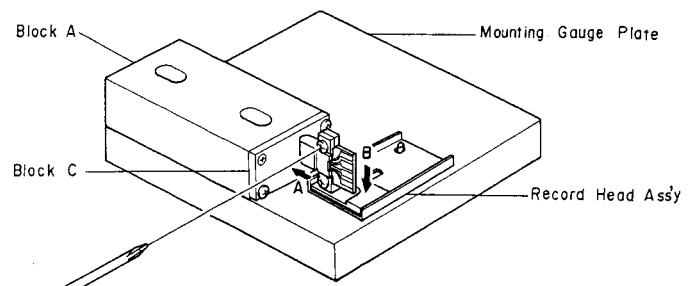

Fig. 4.18
- (5) Remove the Block B from the Mounting Gauge Plate.
- (6) As shown in Fig. 4.18, mount the R-8L record head assembly onto the Mounting Gauge Plate, then check the location of the R-8L record head surface. (If record head contacts to the Block C, loosen 2 pcs. of screws that assemble record head and record head plate, then place the R-8L record head assembly onto the Plate.)
- (7) Remove the R-8L record head assembly from the Mounting Gauge Plate.
- (8) Readjustment of Record Head Mounting Gauge M-9048 (DA09048A)
- (9) Remove the Block B from the Mounting Gauge Plate.
- (10) Mount the R-8L record head assembly onto the Mounting Gauge Plate.
- (11) As shown in Fig. 4.18, loosen 2 pcs. of screws that assemble record head and record head plate. As the location of the Block A is secured by the item (8)-(c), push the record head to the directions A and B, then tighten 2 pcs. of screws.
- (12) Check to insure freedom from gap between the Block C and record head surface, then tighten the 2 pcs. of screws on the record head assembly with lock tight paint.
- (13) Remove the R-8L record head assembly from the Mounting Gauge Plate.
- (14) Assemble the record head assembly to the head mount base assembly.
- (15) Assemble the head mount base assembly to the mechanism assembly.
- (16) Check the record head stroke. If the above are inaccurate, items (1) through (16) will have to be repeated till satisfactory results are obtained.